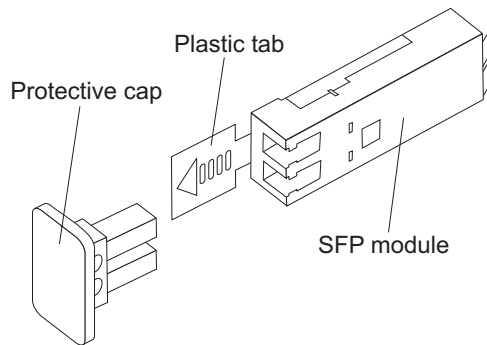

Figure 29. Installing an SFP module into the host port
4. Insert the SFP module into the host port until it clicks into place. See Figure 29 on page 50.